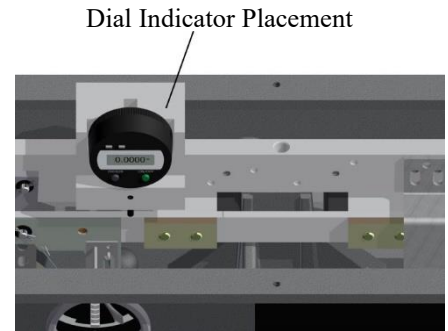

Figure 5
7. Measure and adjust the full travel Figure 5.
1. The link angle is controlled by the closing bumper which is one of two bumpers shown in Figure 5.
1. Flip the switch into the closed position and place the dial indicator gauge near the far end by the bumper block as shown in Figure 5.